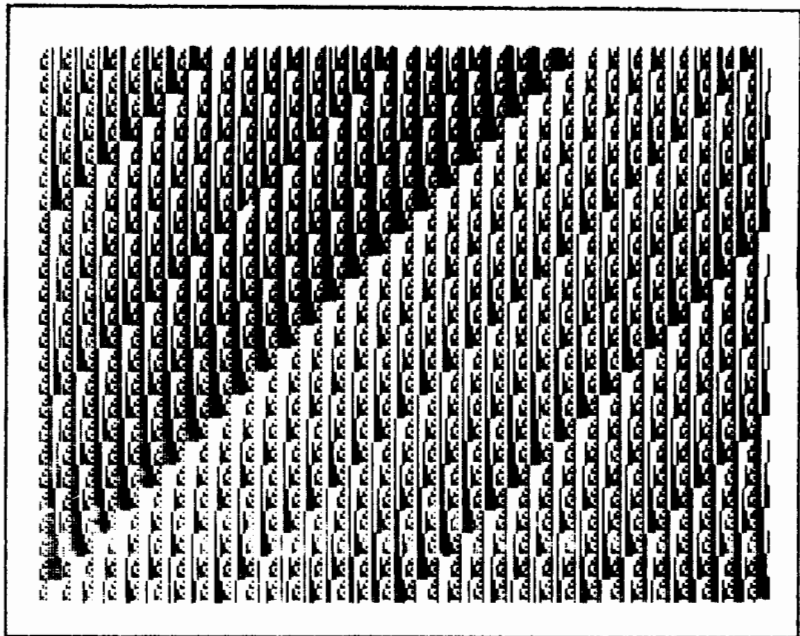

Figure 8-3. CRT Test Pattern 2
c. The pattern (CRT test pattern 2) shown in figure 8-3. This pattern remains on the screen for about 16 seconds.